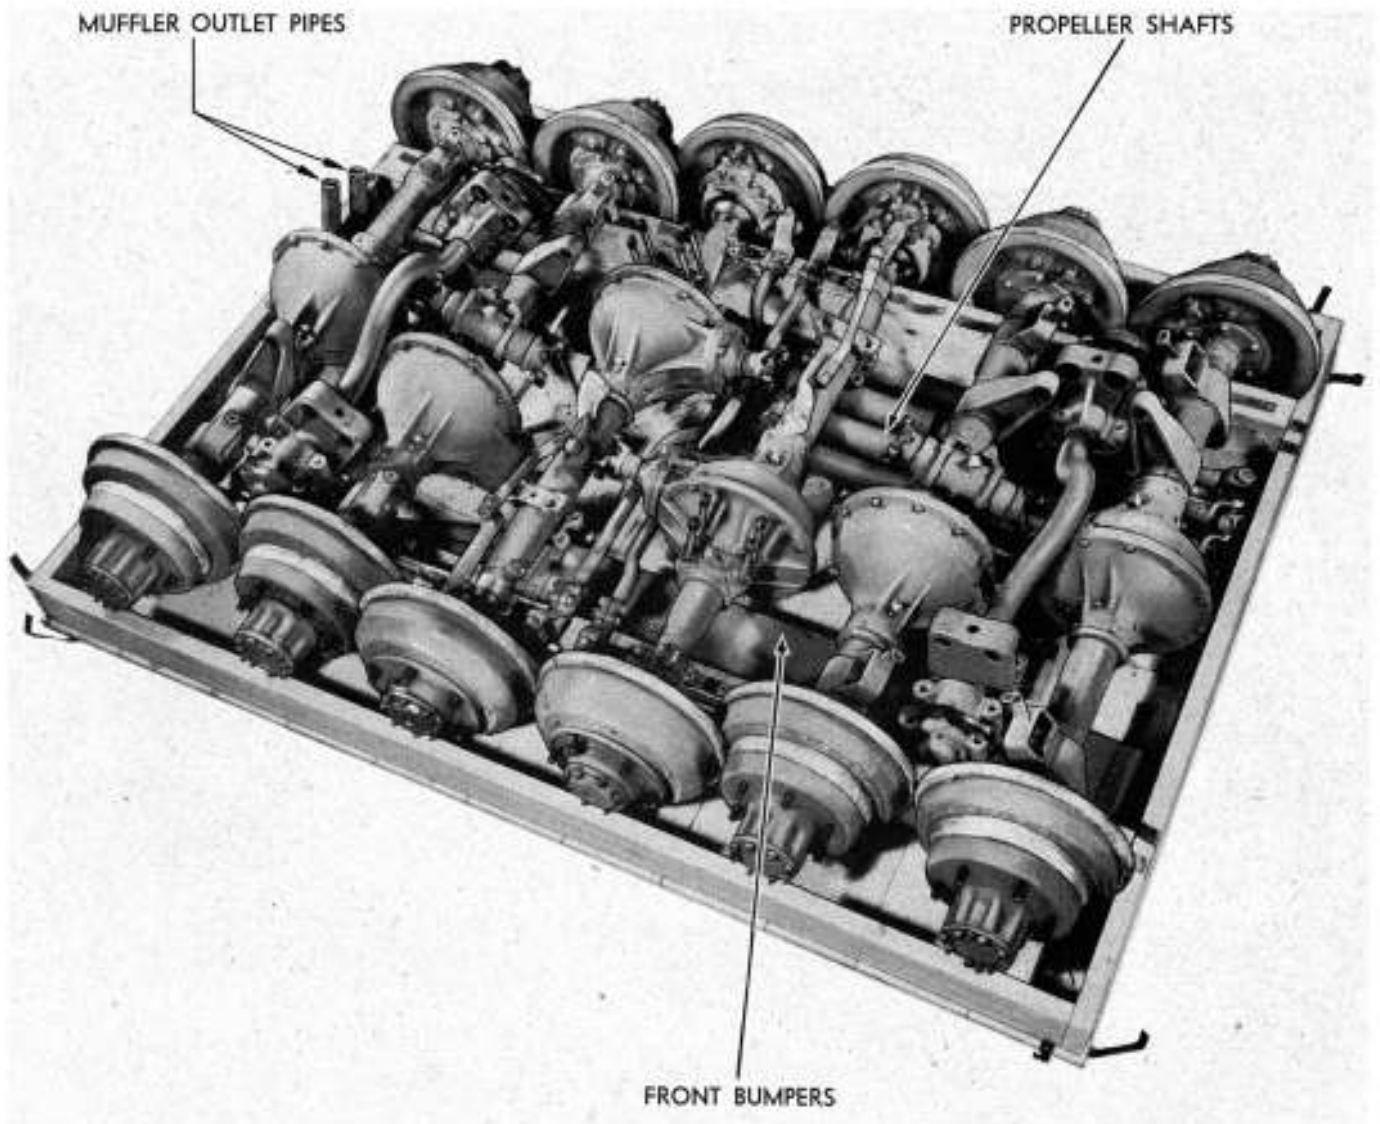

Figure 7—Base of Axle Case
(4) **Parts in Bottom of Case** (fig. 7). Remove or cut all bands and nails holding parts to bottom of case. Do not remove parts until needed in the reassembly operations. Refer to packing lists and parts catalog for individual part identification.